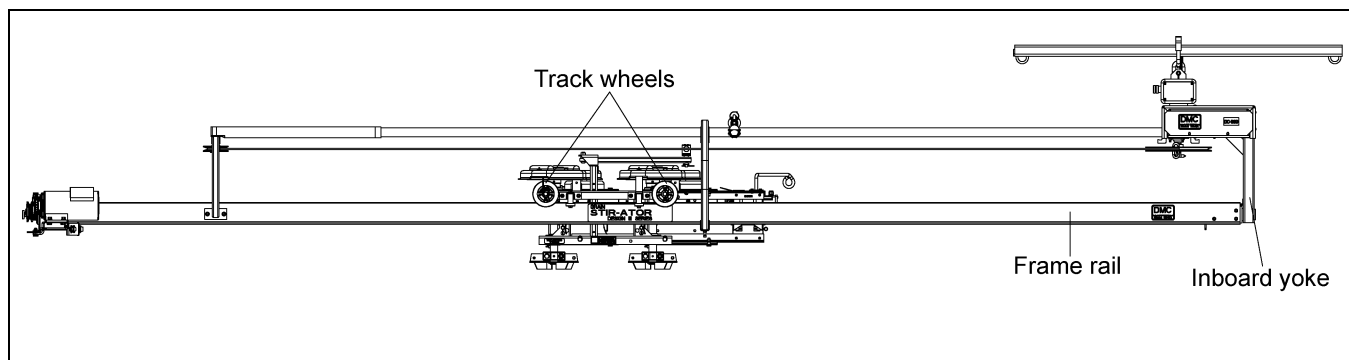
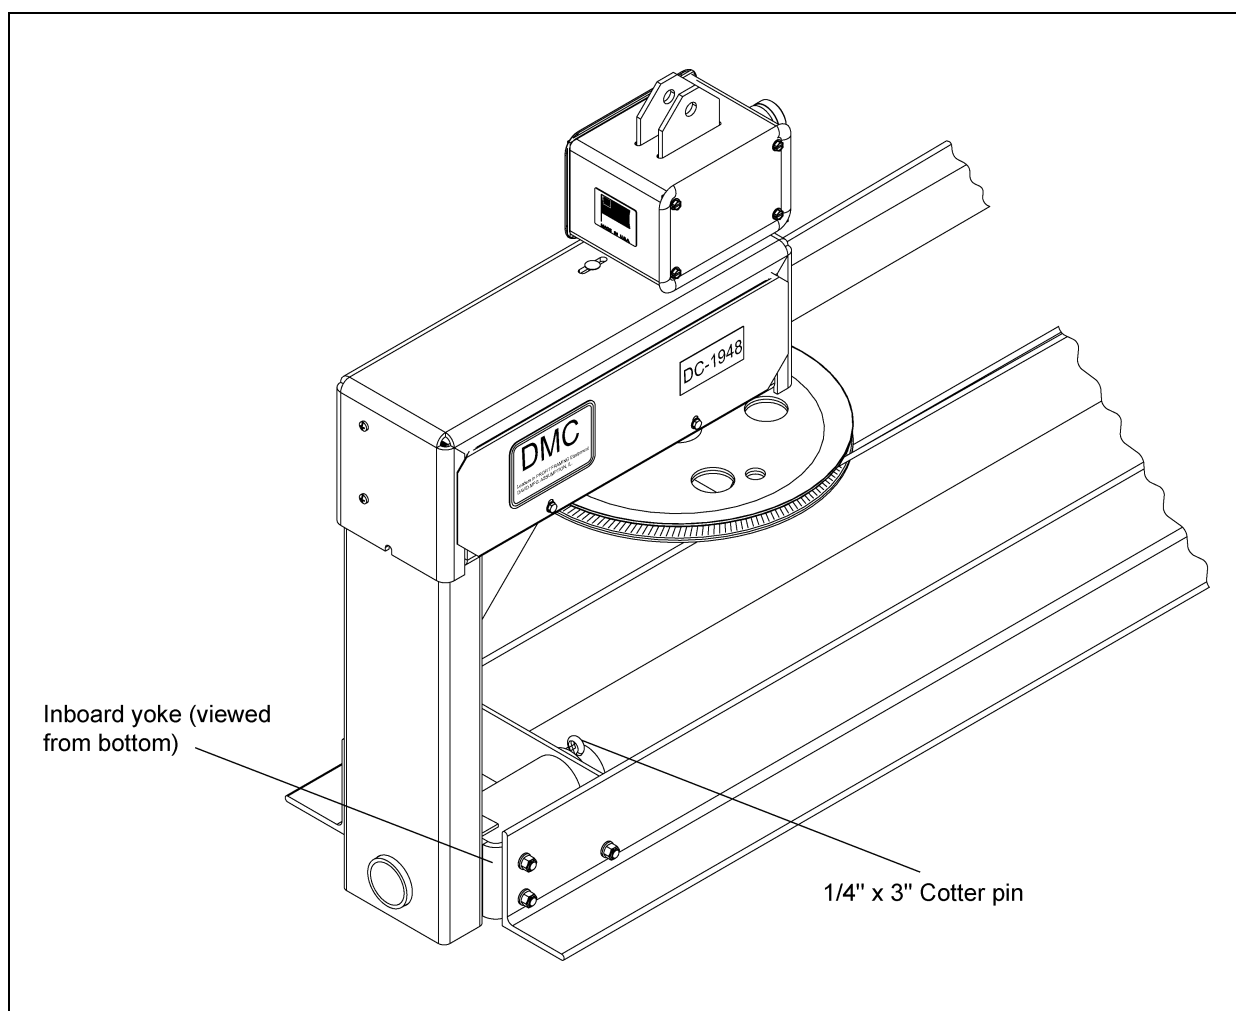
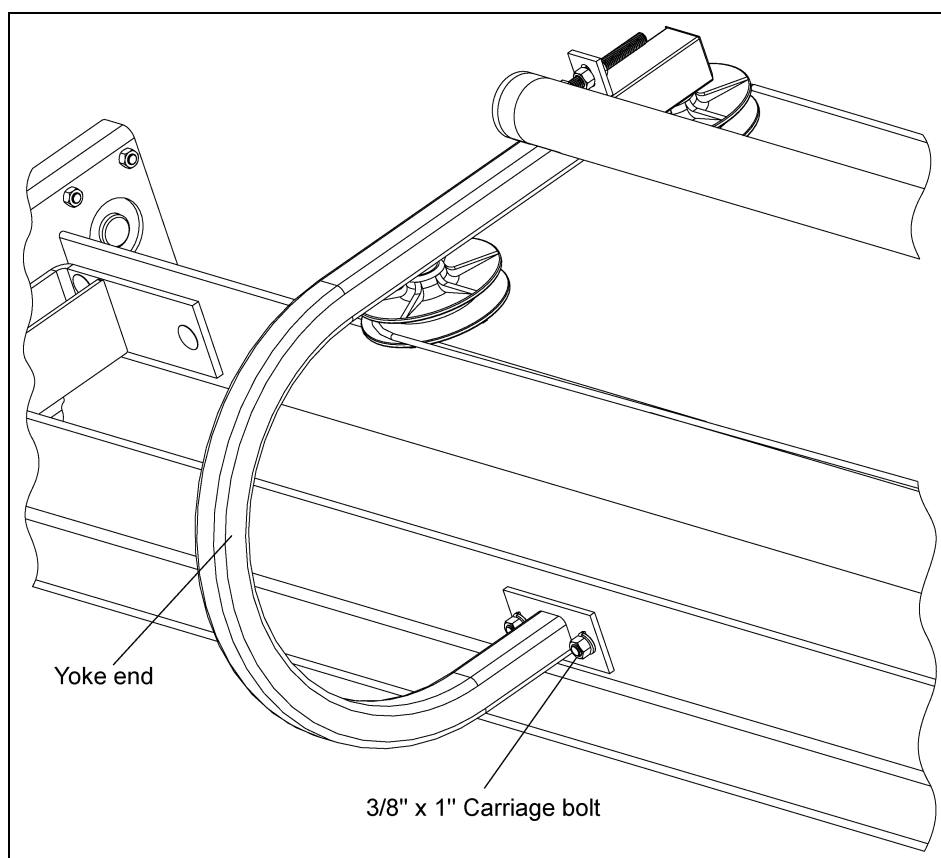
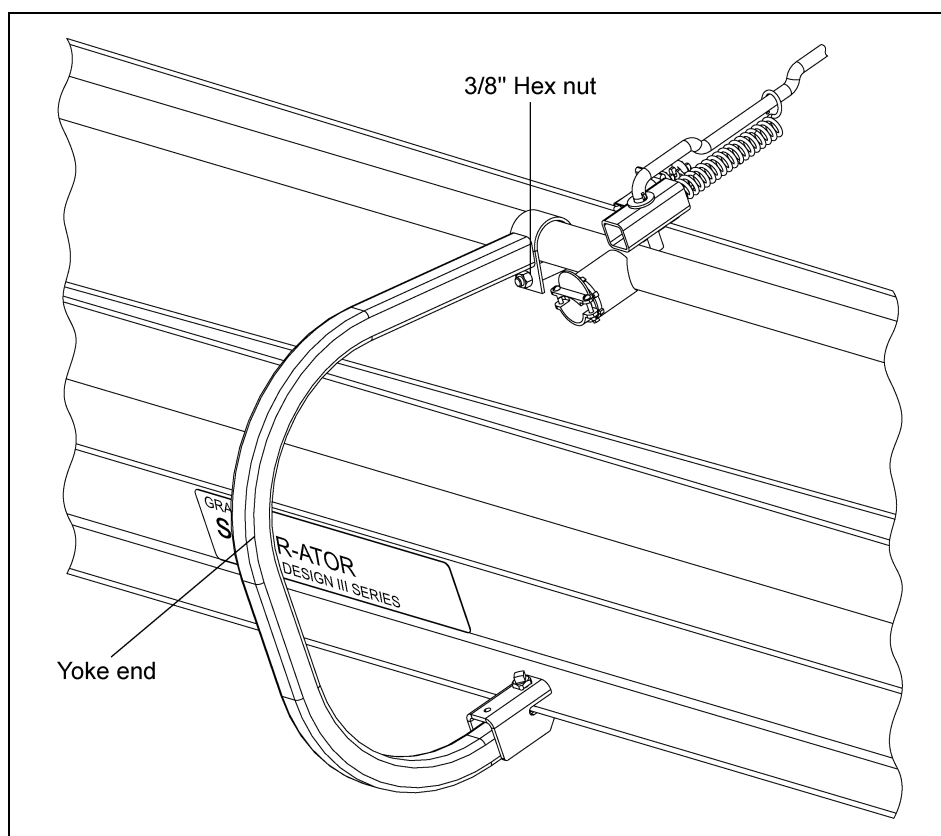

Figure 4R
Figure 4S
Figure 4T
Figure 4U
1. The yoke assembly is attached to the frame rails by placing the pivot tube into the center frame support. If the pivot tube does not slide in readily, file any burrs and grease the inside of the center frame support. Secure by placing a 1/4" x 3" cotter pin through the tube. Open the end of the cotter pin. The end yoke is bolted to the left frame rail with two (2) 3/8" x 1" carriage bolts, lock washers and hex nuts. Bolt from the inside out. Tighten with socket head on impact wrench. (See Figure 4R, Figure 4S below, Figure 4T and Figure 4U on Page 30.)